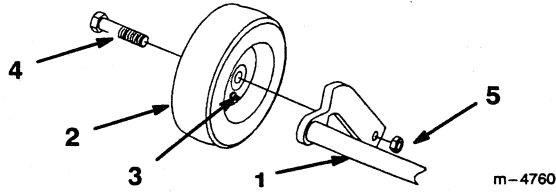

Figure 2
1. Install gage wheels to new wheel carrier (Fig. 2).